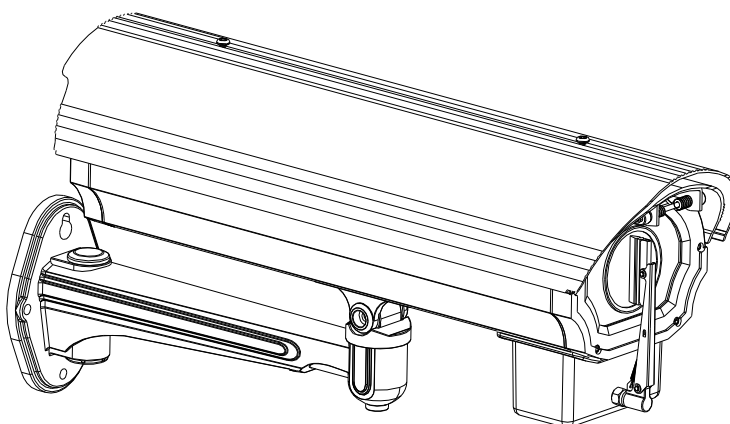

Figure 2-8 Wall Mounting with the Housing
**Note:** This camera is designed for indoor and outdoor use. To use the camera outdoors, it must be installed in an approved outdoor housing as shown in Figure 2-8.